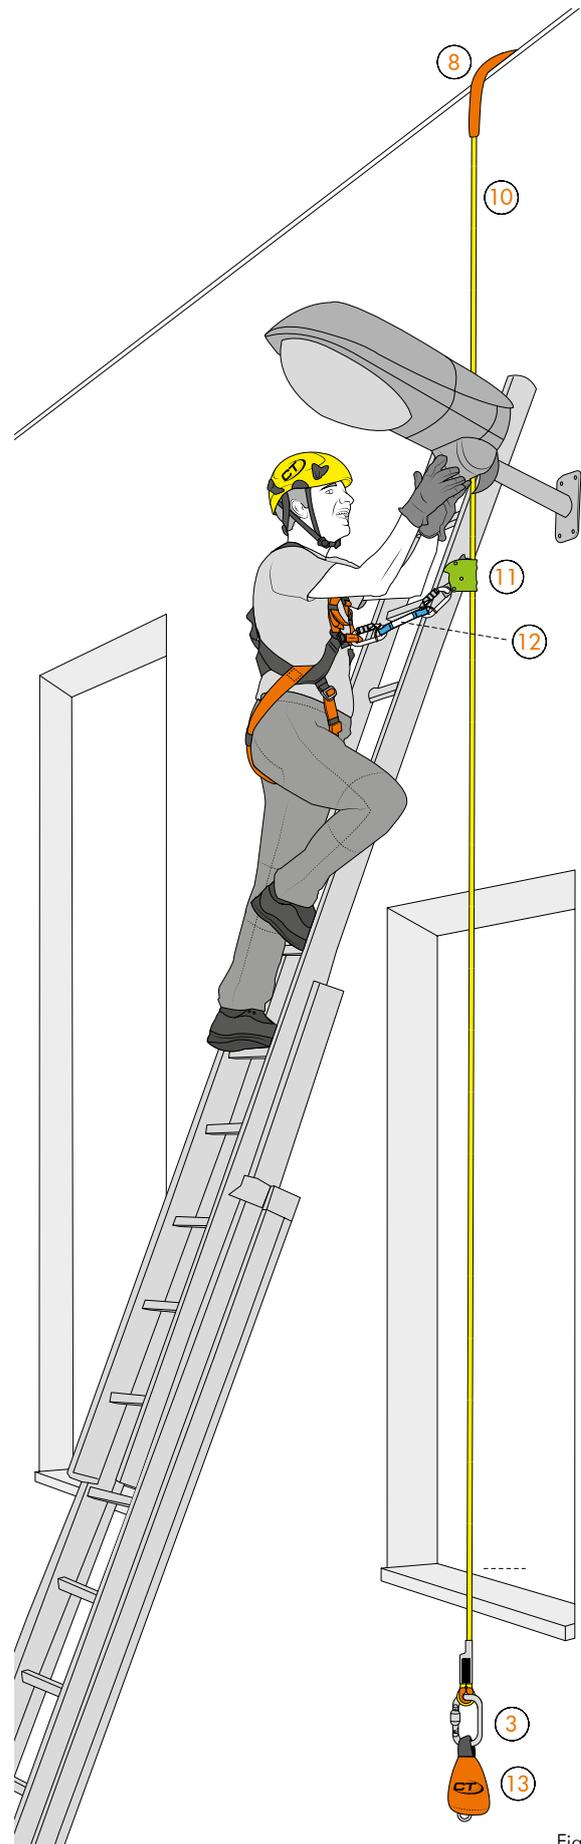

Fig. 4
The operator creates an anchor point using a structural element (e.g. pillar or beam - Fig. 4) or a strut (Fig. 5) He or she then attaches a rope with a loop (10) at one end and at the other a weight (13) and lowers this to the ground. The length of the rope should be calculated so that the weight remains suspended a few centimetres from the ground and the rope remains under slight tension. The operator then positions the ladder next to the vertical rope and connects herself to it using an EN 353-2 guided type fall arrester (11) and starts climbing, maintaining the device as high as possible to avoid a high fall factor.